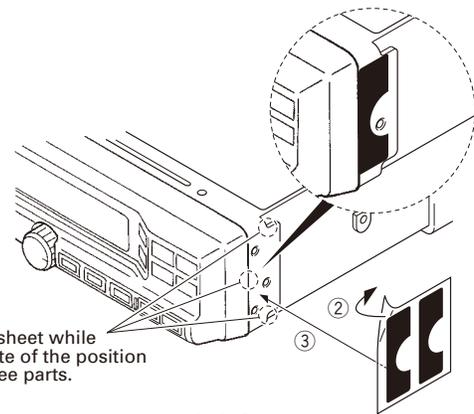

Fig. 1-1-2
4. Affixing the sheet (G11-4379-04) for the waterproof (Fig.1-1-2).
(1) Remove the covering paper of the sheet ②.
(2) Affix the sheet while taking note of the position of the three parts as shown in Fig.1-1-2 ③.